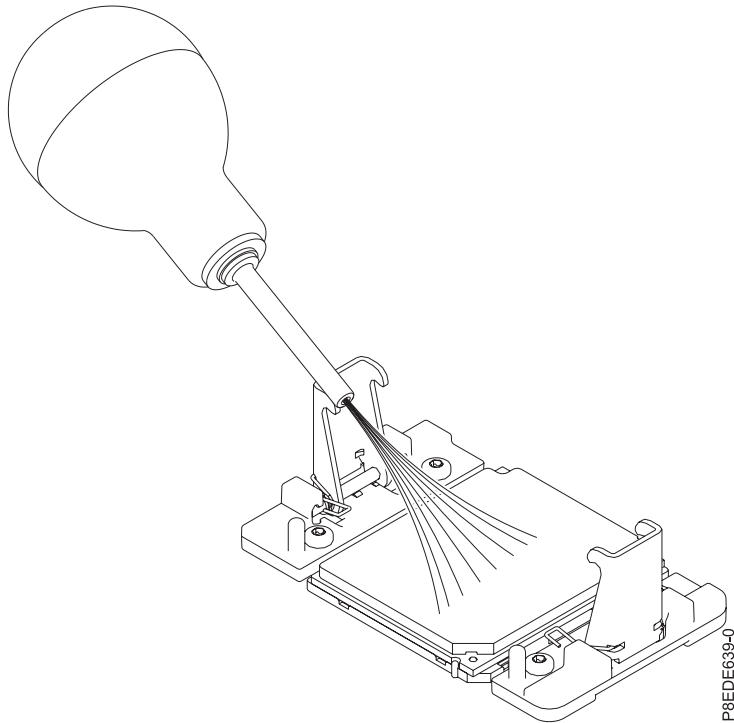

Figure 28. Removing dust and debris from the system processor module area
- a. If dust or debris is present, use the supplied air pump (part number 45D2645) to clean the water-cooled system processor module area. If your air pump is not assembled as shown in Figure 28 on page 29, fasten the tip onto the bulb. Blow small bursts of air from the center toward the sides of the system processor module as shown in Figure 28 on page 29.